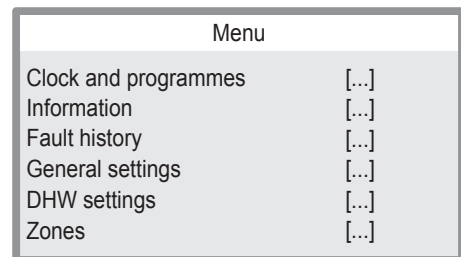

Figure 4.8
- 1 Press key "D" (Figure 4.7) to access the main menu (Figure 4.8).